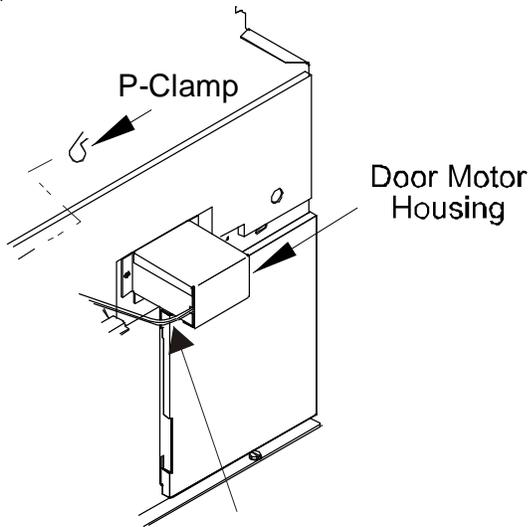

Figure 8
- With the vent door lever in the closed position, place the end of the cable into the hole located in the door motor housing. This will position the cable away from moving parts (Figure 8).
- Attach the provided p-clamp to the partition panel (Figure 8). *There is a dimple at the hole location to mark where a 1/8" hole will need to be drilled to mount the clamp.*